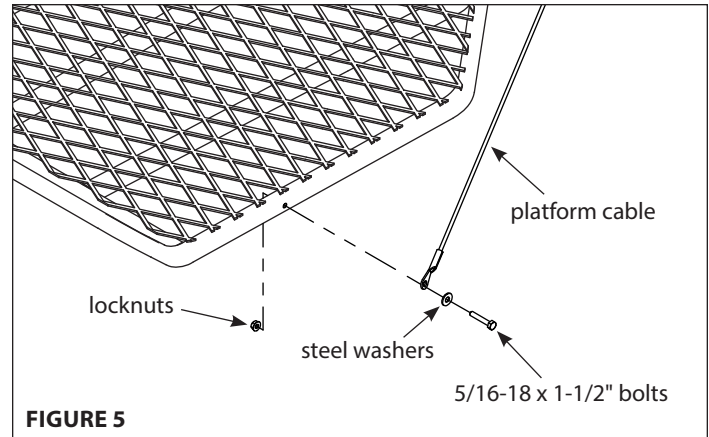

FIGURE 5
2. Attach cable (48212) ends to the platform (CXR12) using (2) provided 5/16-18 x 1-1/2" bolts, locknuts and steel washers. **SEE FIGURE 5. You must now tighten all nut & bolt assemblies securely. Be sure not to over tighten or crush tubing when tightening!**